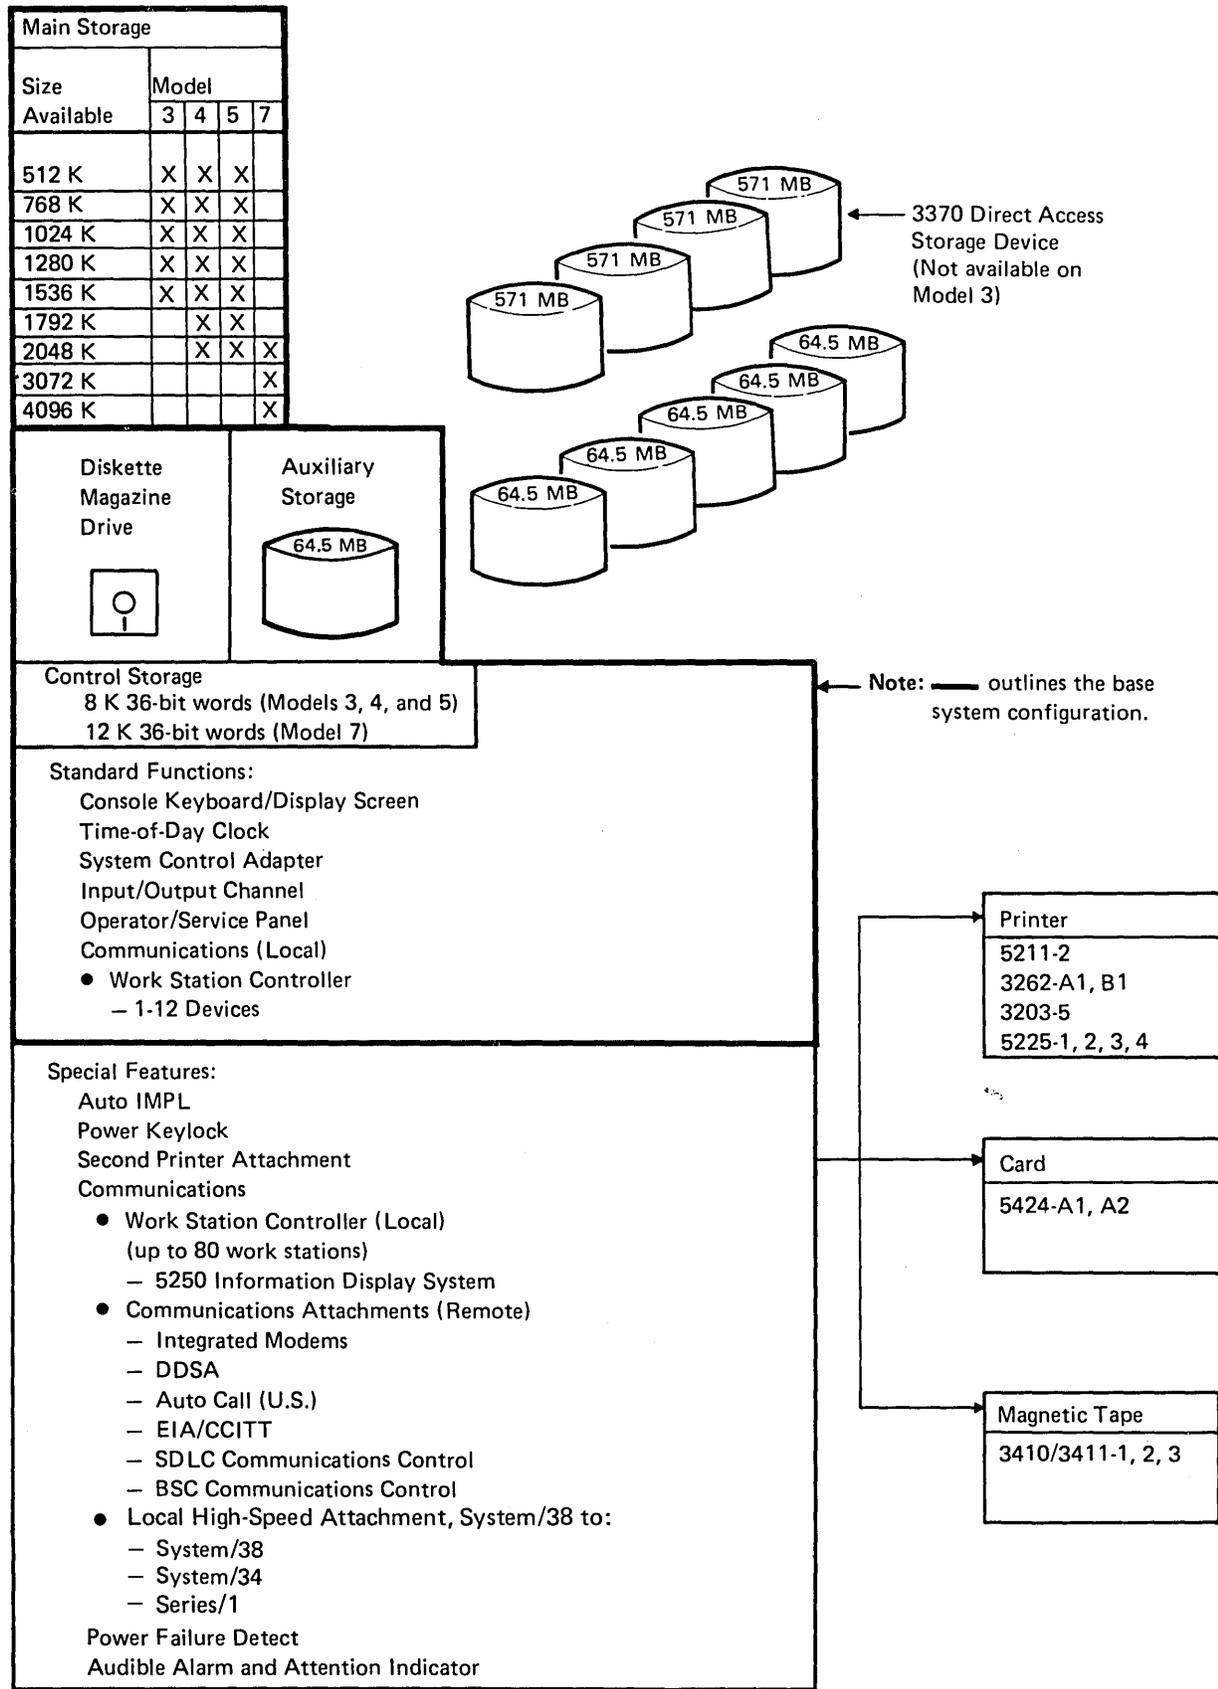

Figure 3-1. Machine Configurator
This chapter describes the devices available. Figure 3-1 shows the various alternatives for System/38 machine configurations.
- Servicing of input/output devices (not included in the base system; see Figure 3-1) while processing continues, if the System/38 Control Program Facility is installed